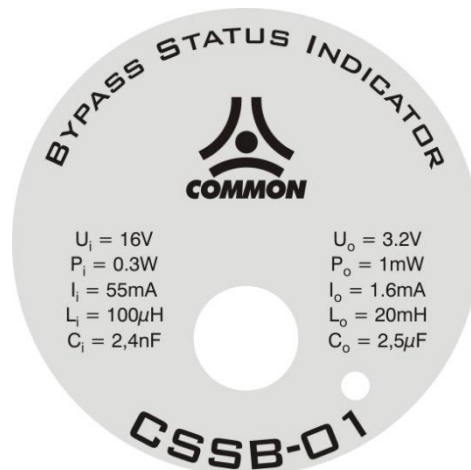

Fig. 24b. CSSB-01 nameplate
CGR-FX gas meter with internal bypass can be optionally equipped with CSSB-01 control panel with bypass status indicator. In case of gas meter failure (breaking of the hermetic membrane) an alarm is signalled by the change of control circuit status and blinking of LED diode (2) on the bypass control panel (Fig. 24a). Button 1 enables inspection of the bypass control circuit in any time. After pressing the button, the LED (2) diode should blink (bypass closed). Bypass control circuit can be connected to an external monitoring device like CMK-03 through socket (3) on CSSB-01 control panel. Intrinsic safety parameters of bypass control circuit equipped with CSSB-01 control panel are presented on the control panel nameplate (Fig. 24b).